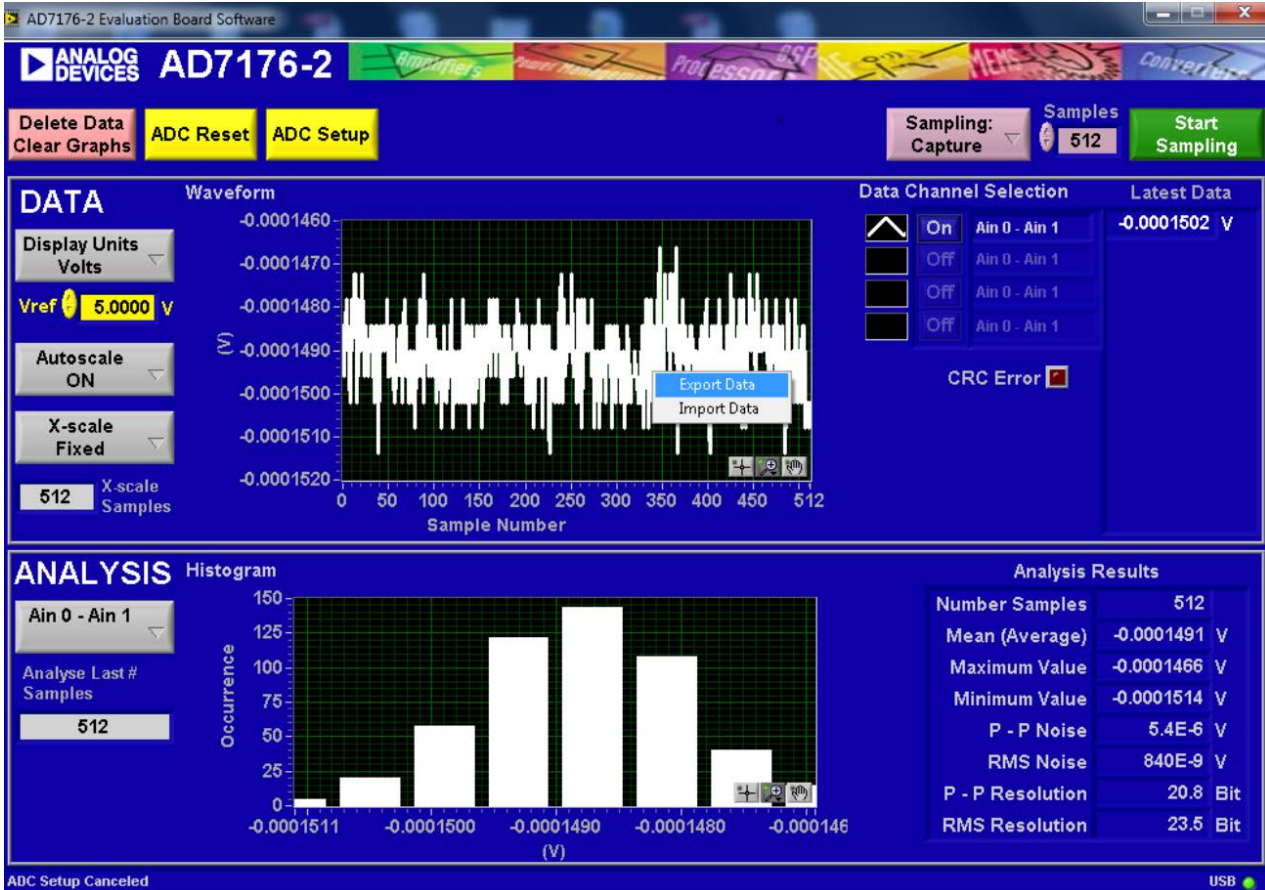

Figure 24. Exporting Data to Save Results
6. If desired, save the current captured data for later analysis (see Figure 24 and the Save File section).
The software can save the current captured data for later analysis (see Figure 24).